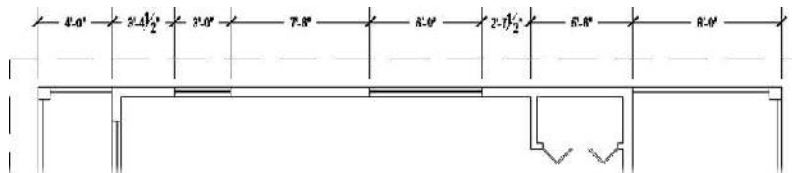

FIGURE 12.19: Dimensions added to each critical point along the top wall
7. Use the Linear tool to add a dimension for the width of the front deck and the Perpendicular osnap to align the dimension lines. When you're finished, the dimensions in your drawing should look like Figure 12.19.